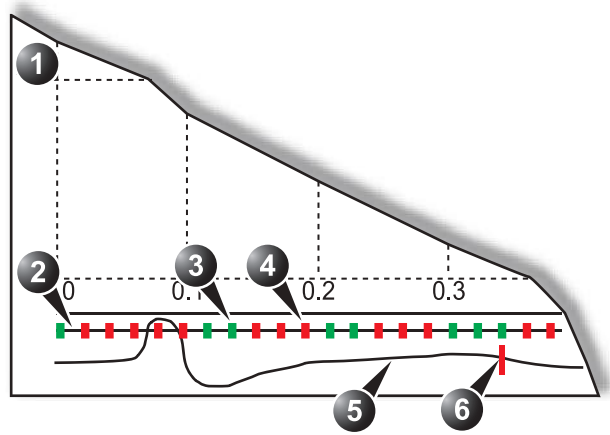

Figure 9-2. Frame disabling
2. Place the cursor on the frame marker of the frame of interest in one of the heart cycles (see Figure 9-2).